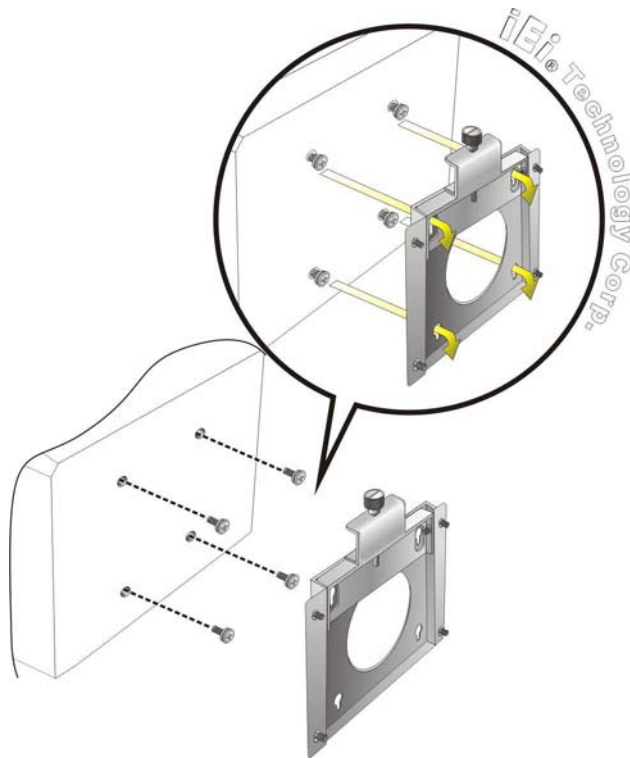

Figure 3-26: Chassis Support Screws
- Step 6:** Insert the four monitor mounting screws provided in the wall mounting kit into the four screw holes on the rear panel of the flat panel PC and tighten until the screw shank is secured against the rear panel (Figure 3-26).
- Step 8:** Carefully insert the screws through the holes and gently pull the monitor downwards until the monitor rests securely in the slotted holes (Figure 3-26). Ensure that all four of the mounting screws fit snugly into their respective slotted holes.